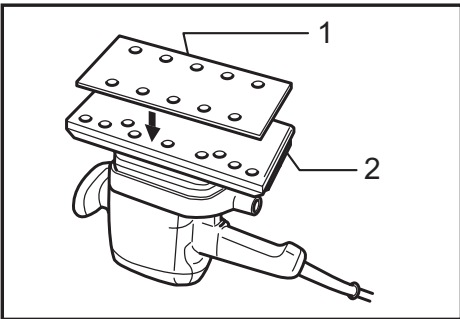

Fig.4
► Fig.4: 1. Velcro type of abrasive paper 2. Pad